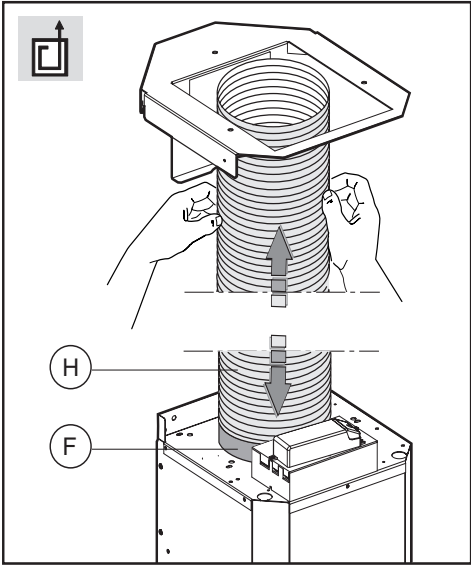

Fig.6
- **Extractor hood:** fix flexible hose **H** (not supplied) to the air exhaust hole made previously (fig. 6).
- Fix the flexible hose **H** (not supplied) over the connector flange **F** (fig. 6 - 7). Place the decorative duct over the bodywork.